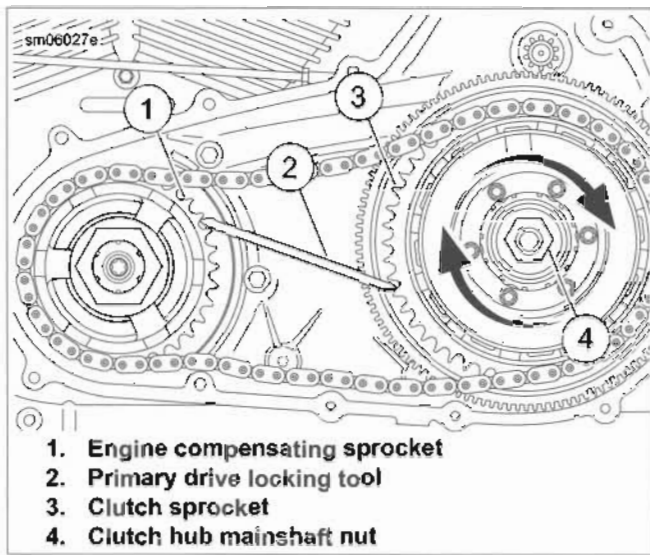

Figure 5-7. Removing Clutch Hub Mainshaft Nut
6. Remove retaining ring (1) and release plate (2).
7. See Figure 5-7. Place the PRIMARY DRIVE LOCKING TOOL (Part No. HD-47977) between the teeth of the engine and clutch sprockets as shown.